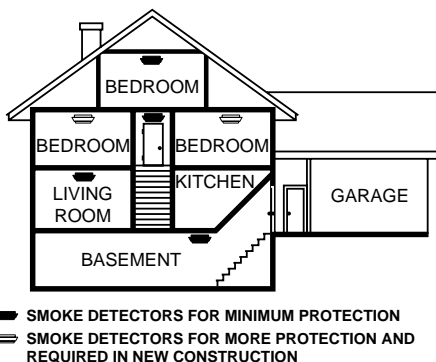

Figure 4. Multi-level residence
- ❑ Put a smoke alarm on every level of a multi-level residence (see figure 4).